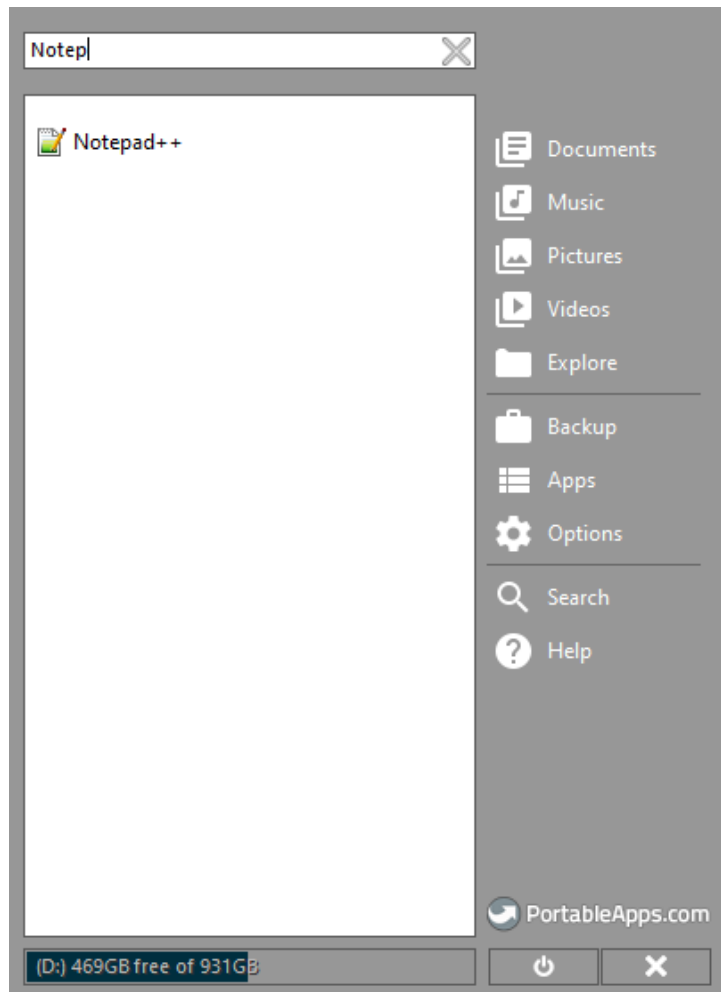
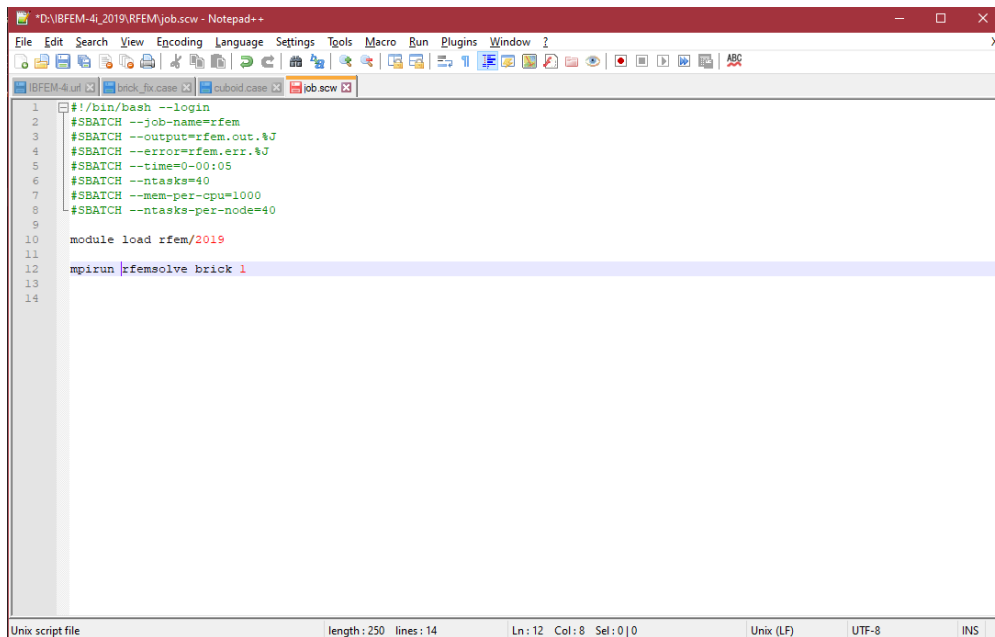

Figure 3. Portable Apps menu used to find software on the USB Flash Drive.
Figure 4. GUI for portable version of Notepad++.
2. Click on the Portable Apps icon to open the 'Start Menu' and search for the desired software program (e.g. Notepad++). Click on it to open the program (see Figure 3). Once open you should see a graphical user interface window (GUI) as shown in Figure 4. These steps may differ slightly depending on your machine's setup.